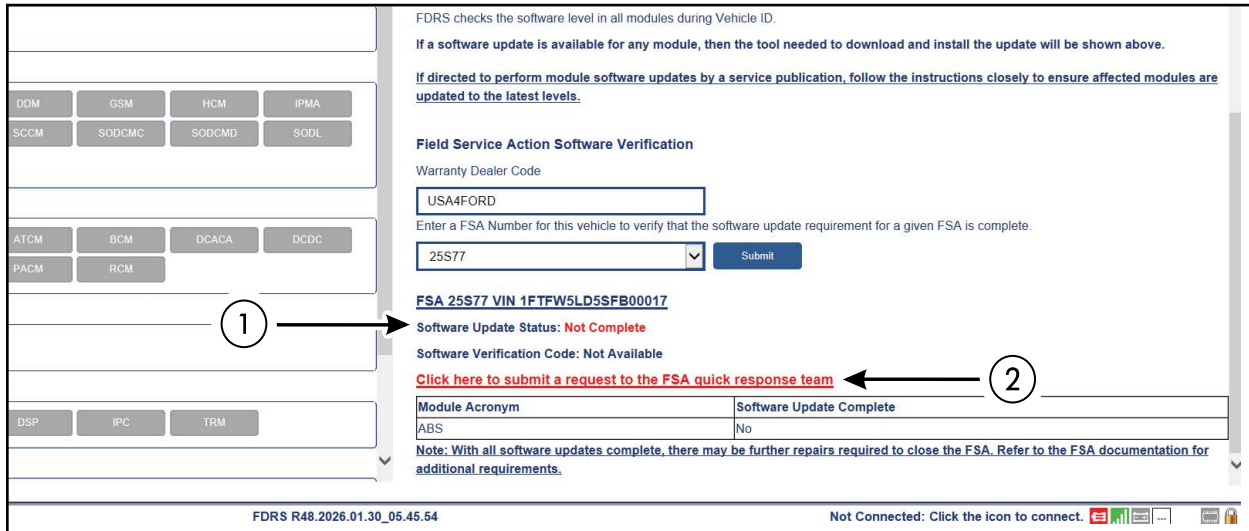

FIGURE 8
See Figure 8.
23. Use the "Click Here to submit a request to the FSA quick response team" link (2) shown in Figure 8. Follow the on-screen prompts to enter the following information: